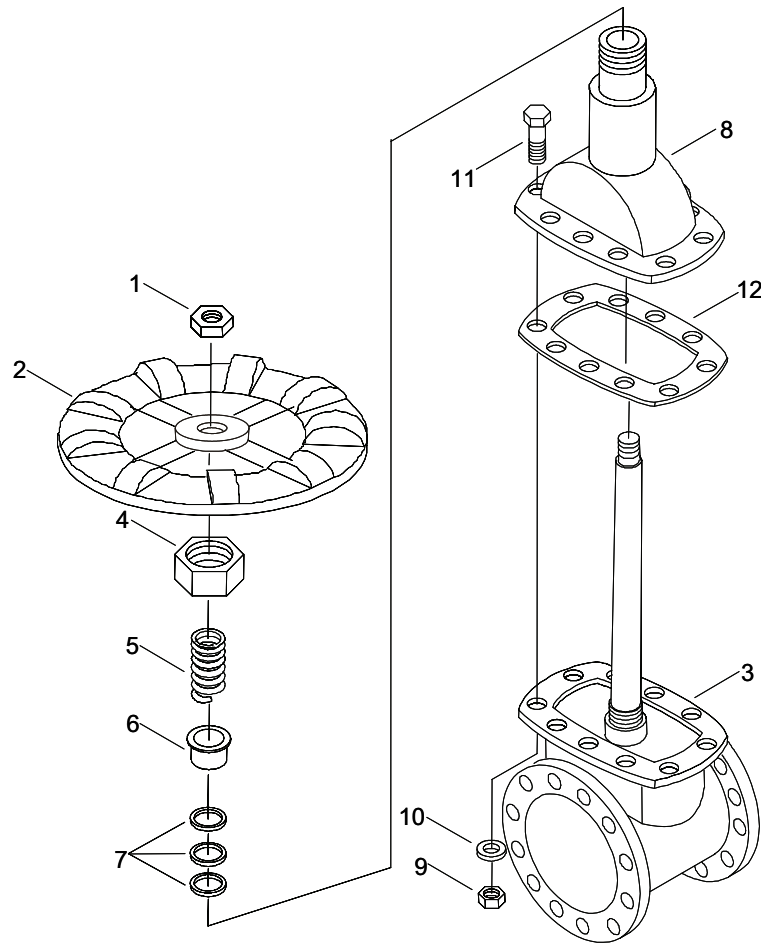

Figure 2. 6 In. Gate Valve.
1. Remove wheel nut (Figure 2, Item 1) and hand wheel (Figure 2, Item 2) from gate valve (Figure 2, Item 3).
2. Remove packing nut (Figure 2, Item 4) by hand. Remove packing gland spring (Figure 2, Item 5), packing gland (Figure 2, Item 6) and three packing rings (Figure 2, Item 7) from bonnet (Figure 2, Item 8).
3. Discard packing rings (Figure 2, Item 7) and packing gland (Figure 2, Item 5).
4. Remove ten hex nuts (Figure 2, Item 9), ten lock washers (Figure 2, Item 10) and 10 cap screws (Figure 2, Item 11) from bonnet (Figure 2, Item 8).
5. Discard lock washers (Figure 2, Item 10).
6. Remove bonnet (Figure 2, Item 8) and bonnet gasket (Figure 2, Item 12) from gate valve (Figure 2, Item 3).
7. Discard bonnet gasket (Figure 2, Item 12).
1. Install new bonnet gasket (Figure 2, Item 12) and bonnet (Figure 2, Item 8) onto gate valve (Figure 2, Item 3).
2. Install ten cap screws (Figure 2, Item 11), ten new lock washers (Figure 2, Item 10) and ten hex nuts (Figure 2, Item 9) through bonnet (Figure 2, Item 8) and gate valve (Figure 2, Item 3). Hand tighten hex nuts (Figure 1, Item 9).
3. Using torque wrench and adapter, torque ten hex nuts (Figure 2, Item 9) to 40 ft lb (54 N-m).
4. Install new packing rings (Figure 2, Item 7), new packing gland (Figure 2, Item 6), gland spring (Figure 2, Item 5) and packing nut (Figure 2, Item 4) onto bonnet (Figure 2, Item 8).
5. Install hand wheel (Figure 2, Item 2) and wheel nut (Figure 2, Item 1) on gate valve (Figure 2, Item 3). Tighten wheel nut (Figure 2, Item 1).